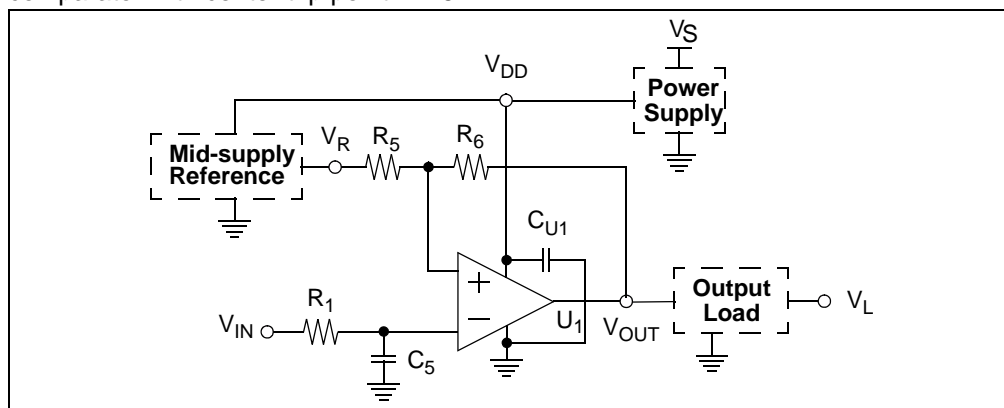

FIGURE 2-12: Inverting Comparator Circuit Diagram.
- The Mindi™ Amplifier Designer gives design recommendations for the inverting comparator circuit; see the circuit diagram shown in Figure 2-12